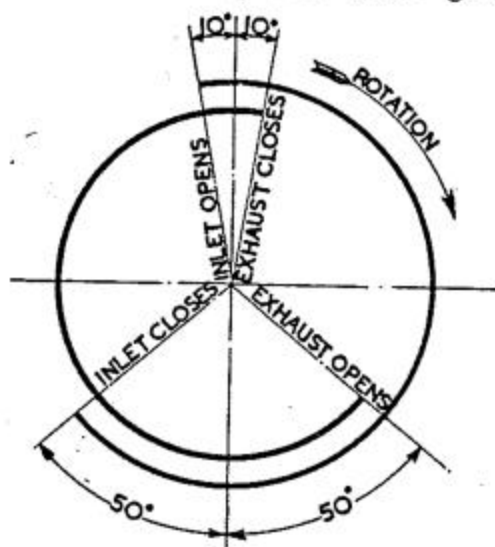
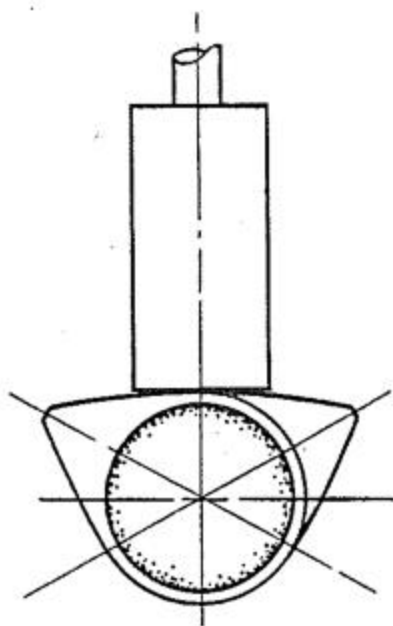

Fig. 26. Valve timing diagram (10° crank movement before or after T.D.C. is equivalent to 0.035" piston movement)
Fig. 27. Tappet at point of rock
4. Rotate the camshaft until the exhaust valve and inlet valve are at the point of balance in which the tappets will be in the position shown in Fig. 27. In this position the exhaust valve will just be about to close and the inlet valve be just commencing to open. From Fig. 26, which gives the valve timing diagram, it will be observed that the inlet valve opens 10° before T.D.C. and the exhaust valve closes 10° after that point (.035" on piston stroke).